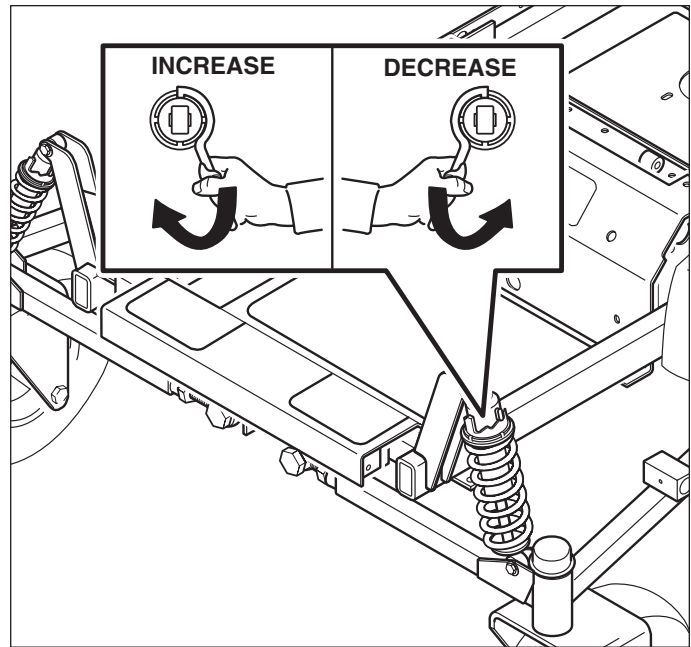

Figure 36. Front Suspension Adjustment
2. See Figure 36. Using the supplied spanner wrench (p/n 22853), insert the tip of the wrench into the notch in the pre-load adjuster. While holding the wrench in place with one hand, turn CLOCKWISE to increase the pre-load, turn COUNTER-CLOCKWISE to decrease the pre-load. Make sure both shocks are set to the same amount of pre-load.